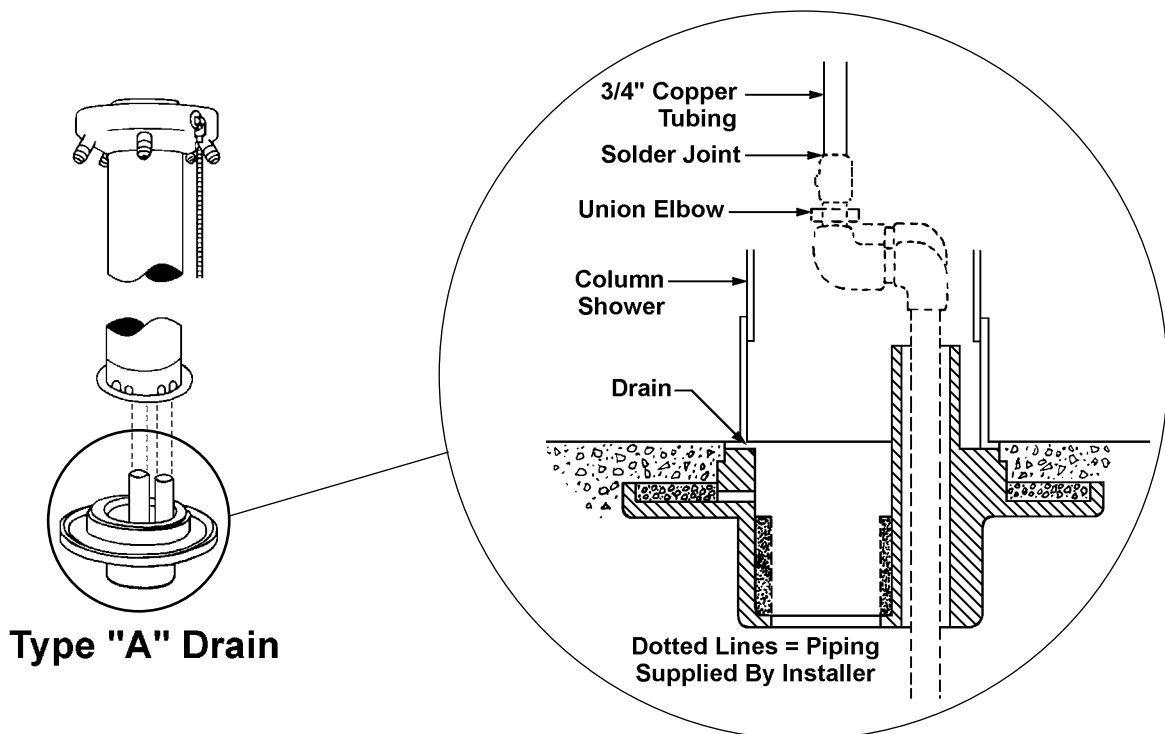

Figure 2
2. Through the access opening, connect water supplies to the shower's 3/4" copper tubing as shown in Figure 2 (piping supplied by installer).